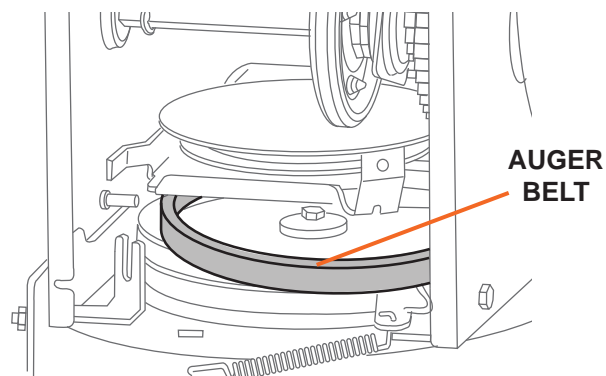

Figure 21
5. Remove the belt from the auger pulley, slip the belt between the support bracket and the auger pulley (see Figure 21).